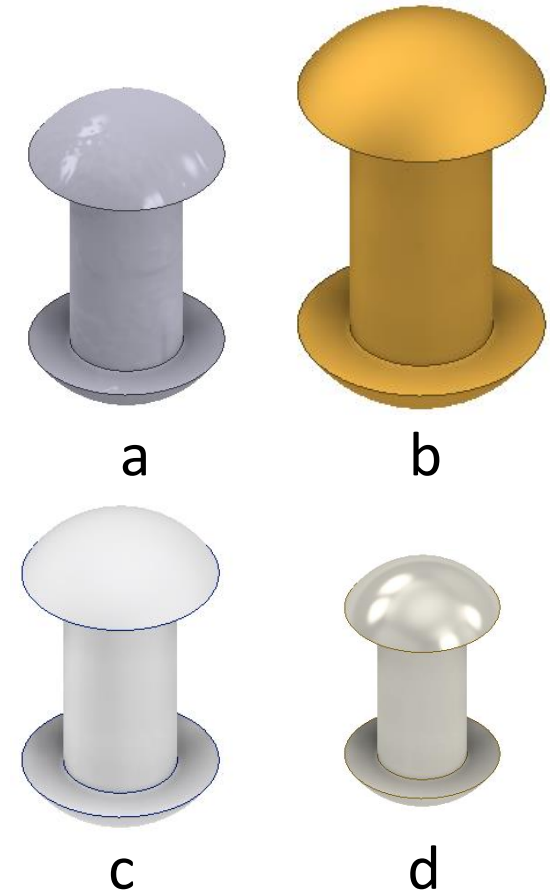

Fig. 4 – Solid rivets:
5. Select **diameters of solid rivets (Fig. 4)**, which satisfy the safety margin  $n_{\min} = 3$ , and calculate actual cross-section areas